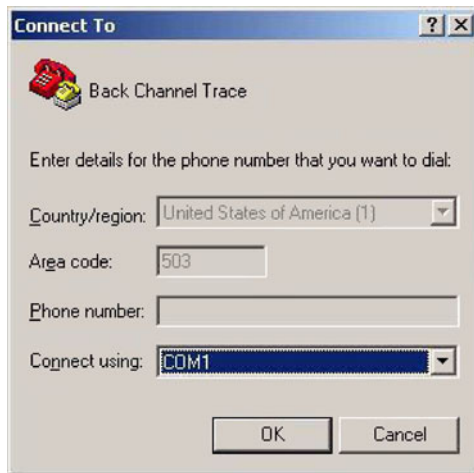

Figure 5 Comm Port Information
8. Another window appears asking to connect using a device. Select the Comm port that your diagnostic and null modem cable is connected to. Then click **OK** or press **Enter (Figure 5)**. Refer to your PC or Laptop Owners Guide for information.